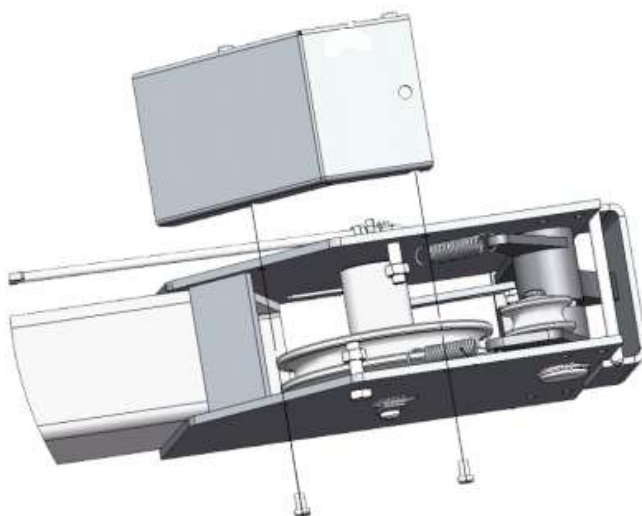

Figure 28
Step 12 - Install spring and beam safety cover of cross beam (See Fig.28).